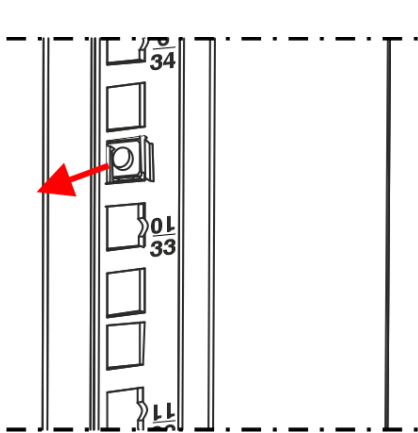
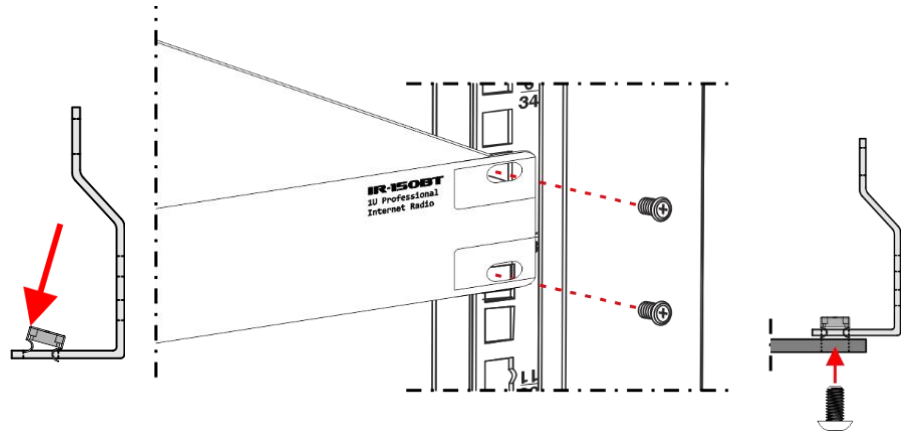

Fig. 45
Fig. 46
- 03) Press the other side of the **cage nut (M)** and push it through the hole, as shown in Fig. 45.
- 04) Repeat steps 2–3 to install the other 3 **cage nuts (M)**.
- 05) Put the equipment in front of the cabinet at the place where the 4 **cage nuts (M)** are installed. Make sure that the mounting holes on the equipment are aligned with the **cage nuts (M)**, as shown in Fig. 46.
- 06) Use a screwdriver to mount the equipment to the **vertical brackets (G)** with 4 **screws (P)**.
- 07) Tighten the 4 **screws (P)** to make sure that the equipment cannot move.